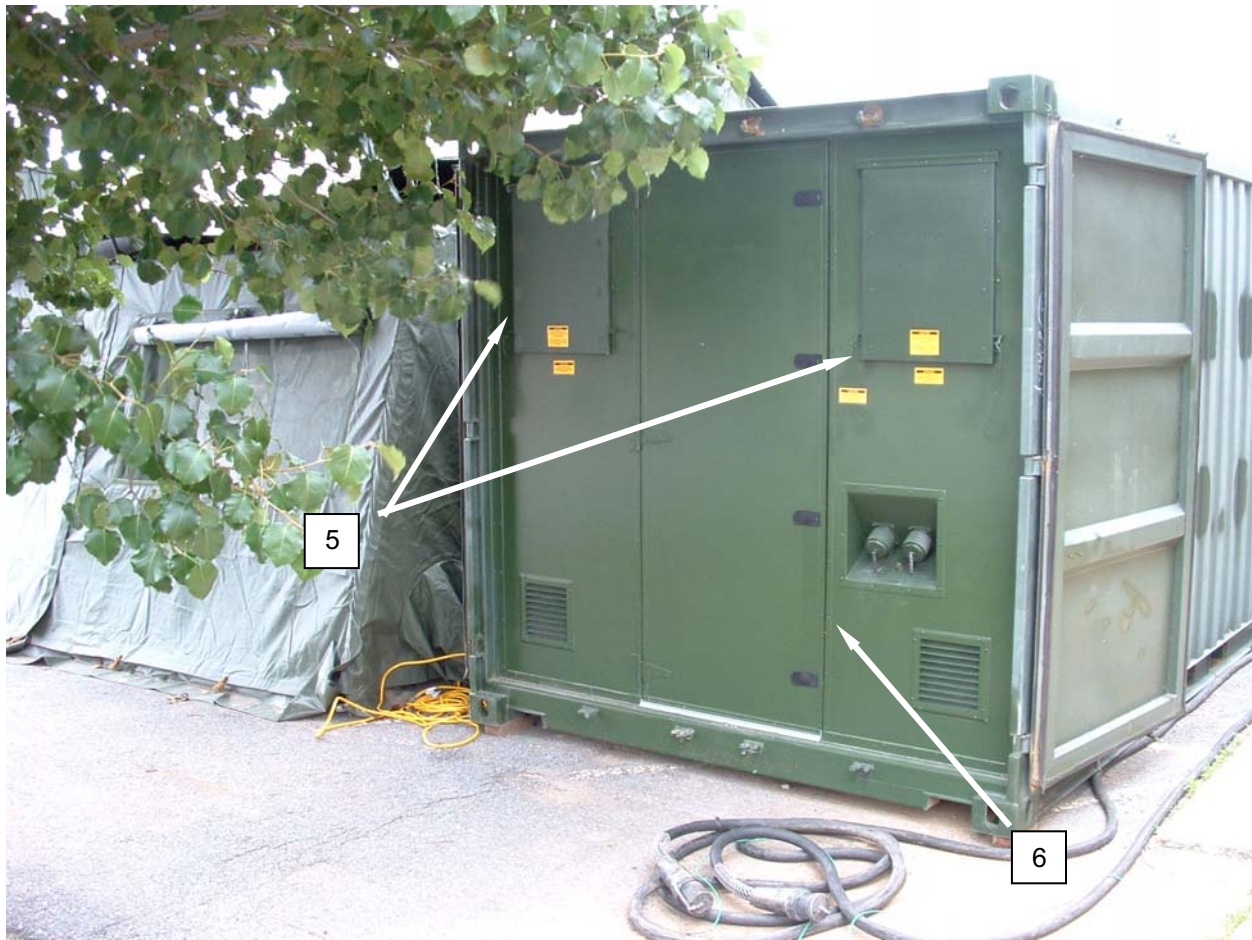

Figure 19. CBL Shut Down Procedure during NBC Imminent or Actual Attack.
4. Close rain hoods (Figure 19, Item 5) and dryer access door (Figure 19, Item 6).